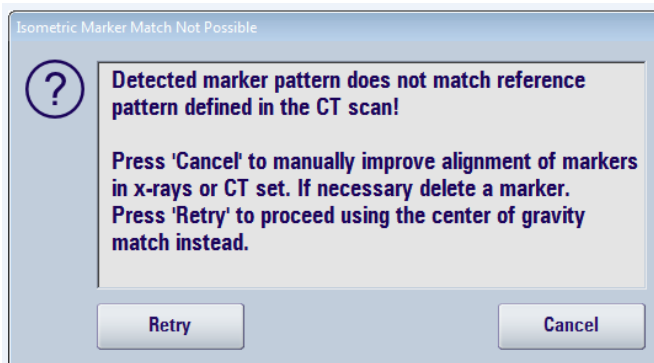

Figure 5: Message box indicating that ExacTrac Vero suggests switching to a "center of gravity match".
3. If the software displays the message box depicted below, always select "Cancel" (see Figure 5).